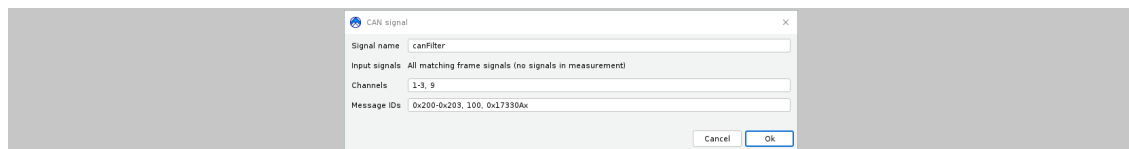

Figure 15: The CAN signals window
2. The frames can be filtered by channel numbers. If the channels field is left empty, all channels are considered. Otherwise a comma-separated list of channels and channel areas is expected (see Figure 15).
3. The frames can be filtered by IDs. If the message IDs field is left empty, all frames from the selected channels considered are considered. Otherwise a comma-separated list of IDs or ID areas is expected (see Figure 15). IDs can be given in decimal or hexadecimal form. Extended IDs are suffixed with an x.